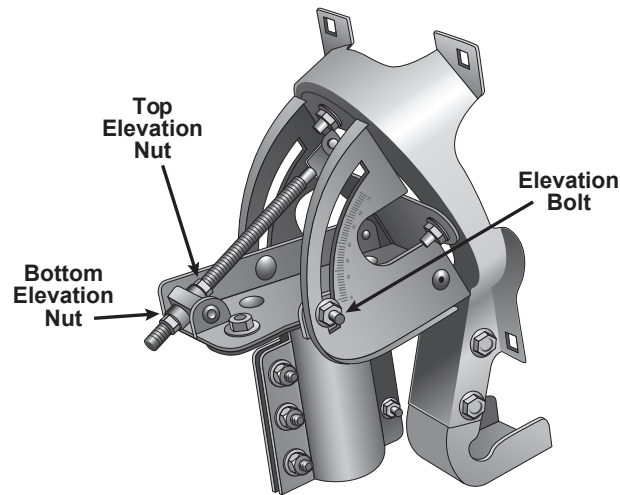

Figure 9. Fine tuning the elevation angle
- 6. Fine-tune elevation angle.** Using the peaking meter, fine-tune the elevation angle. Using a 1/2" wrench, loosen the top elevation nut on the elevation rod to allow the reflector to be moved up and down in elevation. Move the bottom elevation nut along the elevation rod to adjust the reflector's elevation angle and to achieve maximum signal, using the 118.7°W satellite and transponder 13. After obtaining maximum signal, tighten the top elevation nut on the elevation rod, then tighten the elevation bolts labeled with a T to the recommended torque value given in Table 1 on page 9 (see Figure 9).